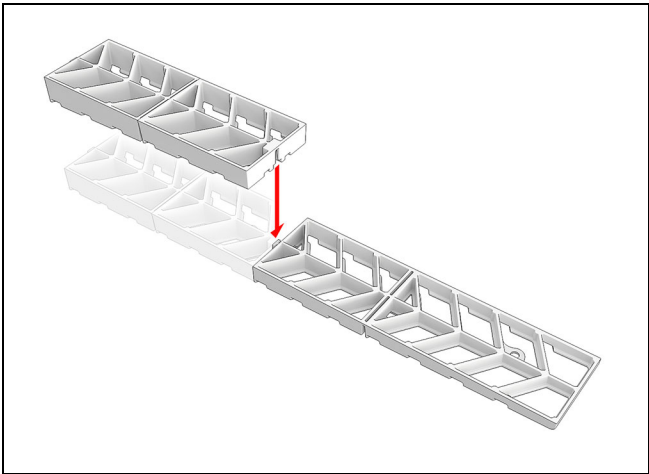

Figure 12 Connect counter-shims
1. Assemble the counter-shims sent with the door. See Figure 12.